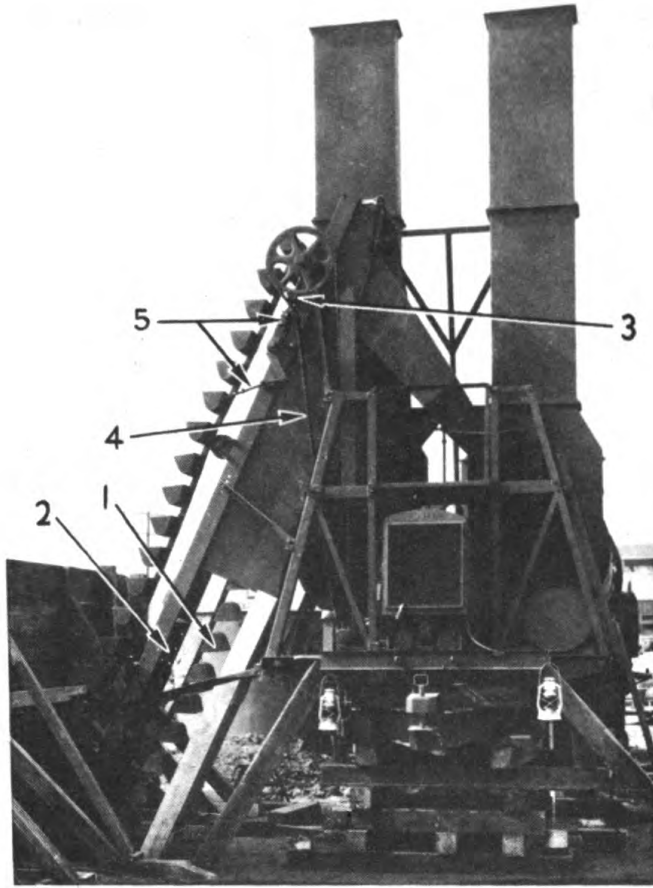

FIG. 30 - ADJUSTMENT OF COLD ELEVATOR DRIVE CHAIN AND BUCKET CHAIN.
The bucket line chain is properly adjusted when the distance between the return chain (1) Fig. 30, and the underside of the elevator frame (2) is from 8" to 12". To adjust this chain take up on each of the two headshaft bolts an equal amount until the chain is properly adjusted.
This chain is kept in proper tension by a spring loading idler sprocket (5) Fig. 30. If the chain should require additional adjustment, remove links from the drive chain.